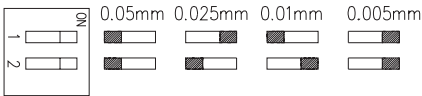

Fig. 9: Parameter setting, position of the DIP switches
- Carry out DIP-switch setting according to fig. 9.